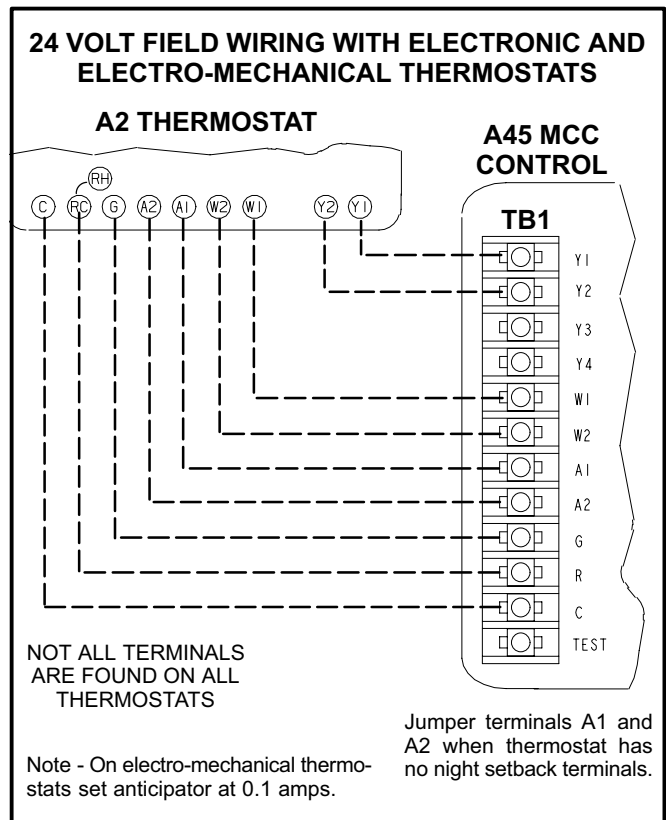

FIGURE 4
- 3- Connect thermostat wiring to TB1 terminal on MCC (A45) control board as shown in figure 4 for electro-mechanical and electronic thermostats. If using other temperature control devices or energy management systems see instructions and wiring diagram provided by manufacturer.